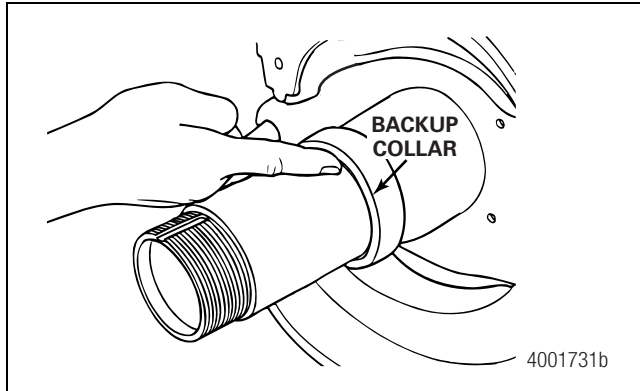
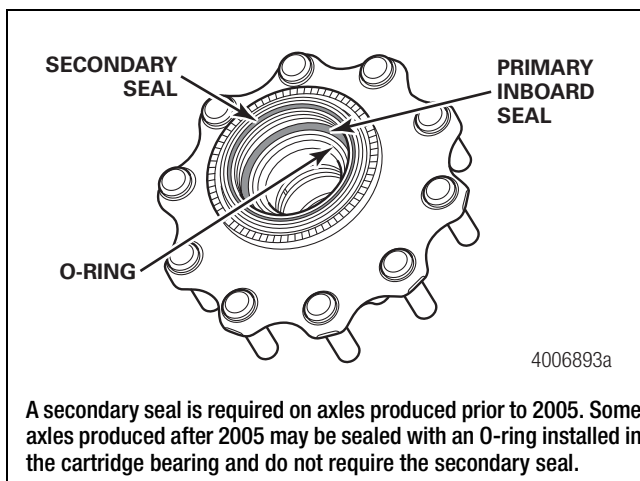

Figure 4.34
Figure 4.35
4. Use your finger to verify that the hub side of the axle backup collar and the edge of the hub that contacts the backup collar are clear of debris. Figure 4.34 and Figure 4.35.